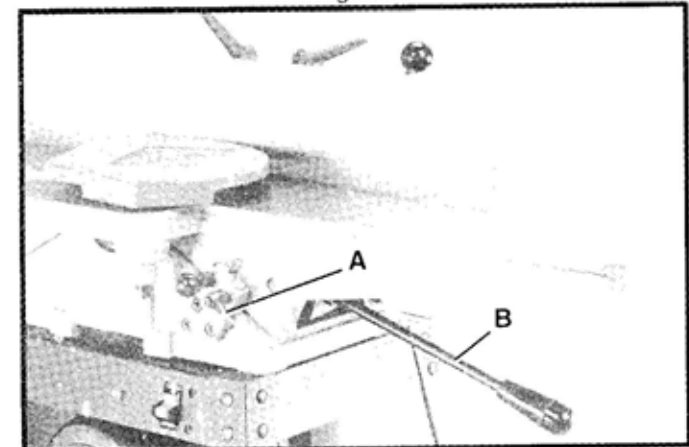

Fig. 35
1. To raise or lower the infeed table, loosen table lockhandle (A) Fig.35, move the table raising and lowering hand lever (B) up or down until the table is at the desired position and tighten table lockhandle (A).